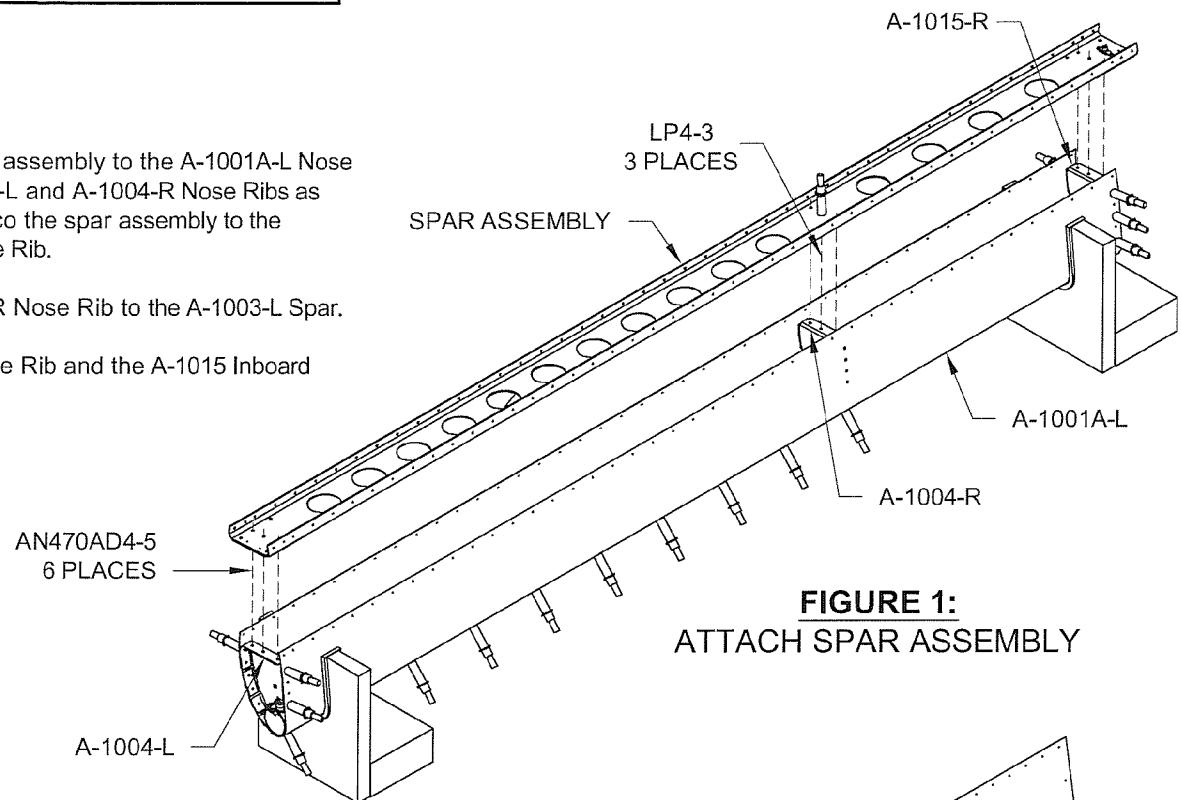

FIGURE 1:
Step 1: Cleco the spar assembly to the A-1001A-L Nose Skin and to the A-1004-L and A-1004-R Nose Ribs as shown in Figure 1. Cleco the spar assembly to the A-1015-R Inboard Nose Rib.